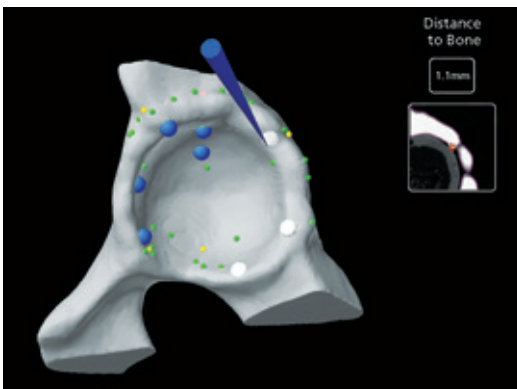

Figure 4
3. Remove the labrum and register the acetabulum (Figure 4). Osteophytes should be left intact during the registration process. If osteophytes are removed or damaged, do not collect points in that area.